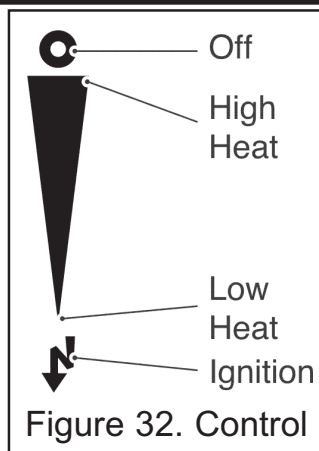

Figure 32. Control
**4.** Gradually slide the control knob up to increase the burner setting. The burner should be at its maximum setting at the high heat position shown in figure 32. You should feel a check to the control knob movement at this position.